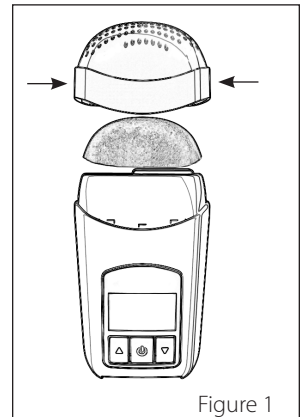

Figure 1
5. Press the **End Cap** onto the **Z2**. (Figure 1)